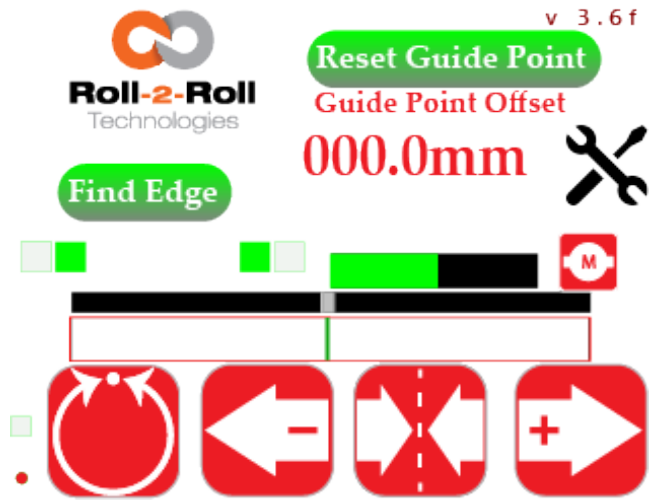

Figure 5.11: Fully covered with two sensor.
- If the web covers both sensors entirely or if it enters from the incorrect direction with both sensors, the web position bar would show as entirely white with a green line in the middle, as depicted in Figure 5.11.